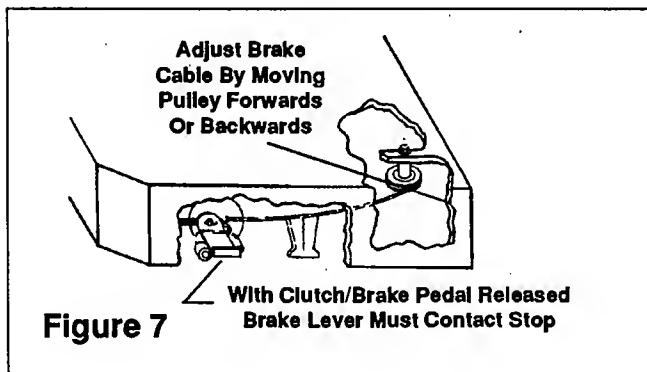
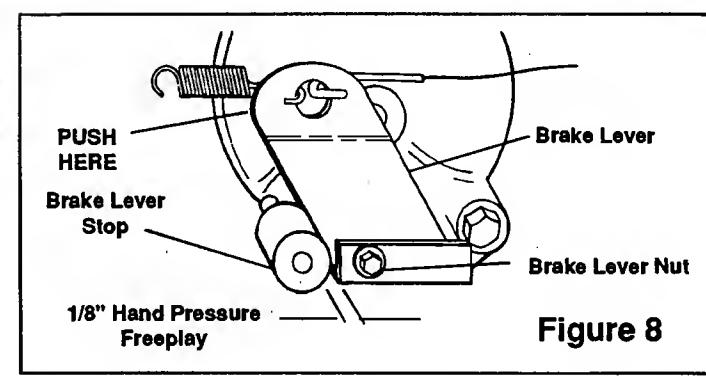

Figure 7
Figure 8
2. To adjust the brake, release the clutch/brake pedal (foot pedal is in the up position, with tension on the transaxle belt). Move brake cable pulley (See figure 7) forward or backward in its slot to permit transaxle brake lever to rest against its stop (See figure 8)